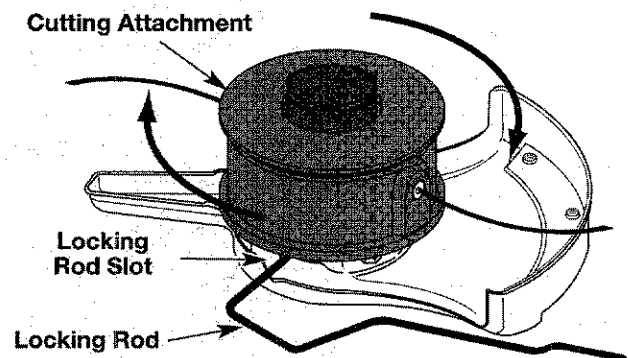

Fig. 10
3. Whilst holding the locking rod, remove the cutting attachment by turning it clockwise off of the output shaft (Fig. 10). Store the cutting attachment for future use.